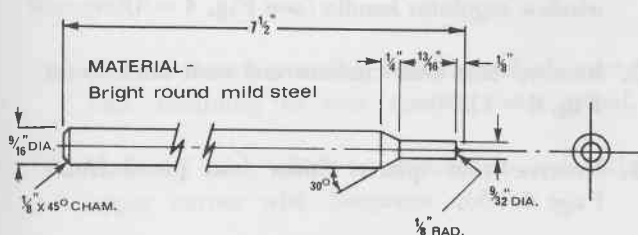

FIG. 4 - 6
6. Using a 3/8" sharp wood chisel positioned between trim panel and head of fastener, tap end of chisel sharply to pare off head of fastener. Alternatively, a special tool fabricated to dimensions illustrated in Fig. 4 - 6 can be used to punch centre of fastener through trim panel, taking care to centralize punch with centre of fastener.